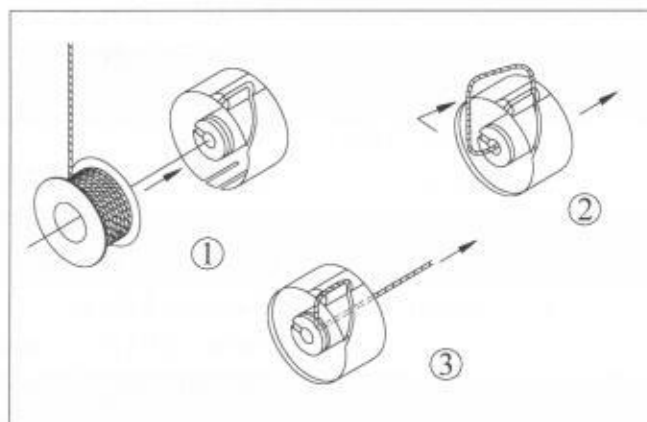

Fig 2
- Thread the bobbin thread by the path indicated in Fig 2.